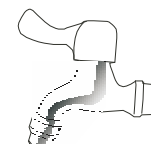

Figure 2
2. The faucet with a buckle (Figure 2) can be directly connected by fitting the inlet pipe into the faucet interface.